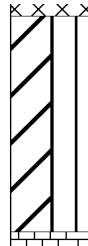

Figure 2.16: Split Stratigraphy
In situations where two dissimilar materials were encountered at the same depth, **LOGDRAFT** can split the stratigraphy column in half and show one material's patterns on the left half of the column and the second material's patterns on the right half. A sample split stratigraphy is shown in Figure 2.16.
2. Next, proceed to the next data entry card *and enter the same depth*. On the second card choose the pattern(s) to appear on the right side of the column. The following figure shows how Figure 2.16 was produced: